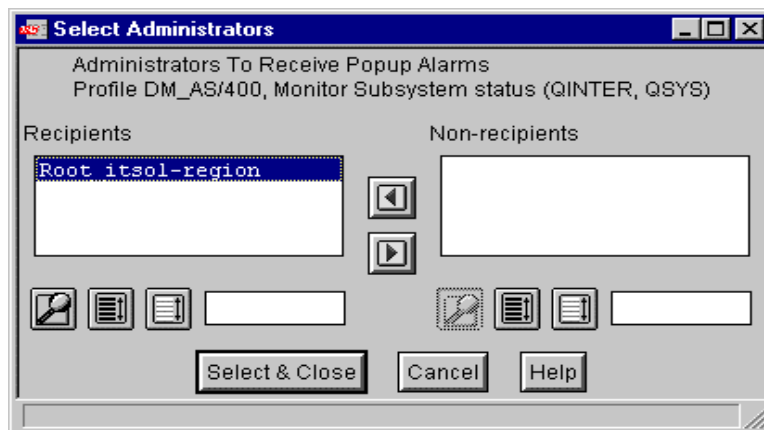

Figure 276. Selecting popup message recipients
- When this event occurs we want to send a Tivoli pop-up message to the system operators so select the **Popup** checkbox. Next, click the **Admins.** button and choose the recipients of the message as shown in Figure 276.